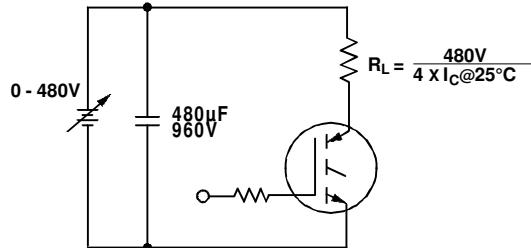

Fig. 13b - Pulsed Collector Current Test Circuit
- ① Repetitive rating; $V_{GE} = 20\text{V}$, pulse width limited by max. junction temperature. (See fig. 13b)